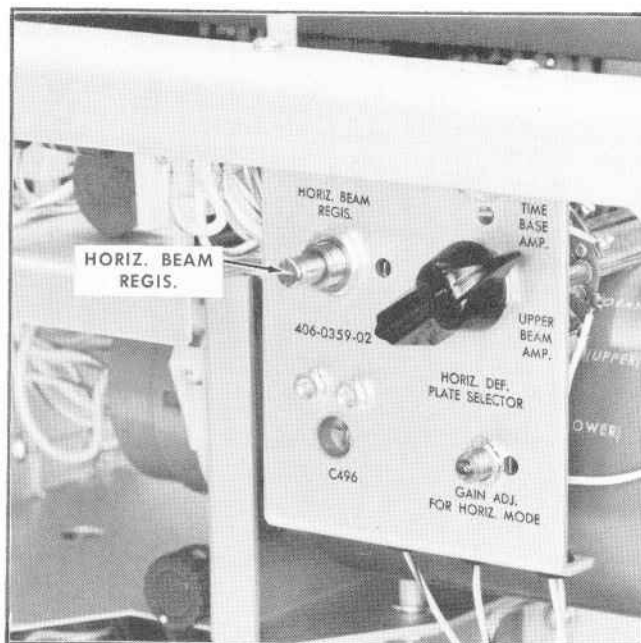

Fig. 6-11. Location of Horiz. Beam Regis. adjustment (step 8e)
f. Set the Horiz. Beam Regis. adjustment R842 (see Fig. 6-11) so that the center time marker on one trace is aligned with the center time marker on the other.